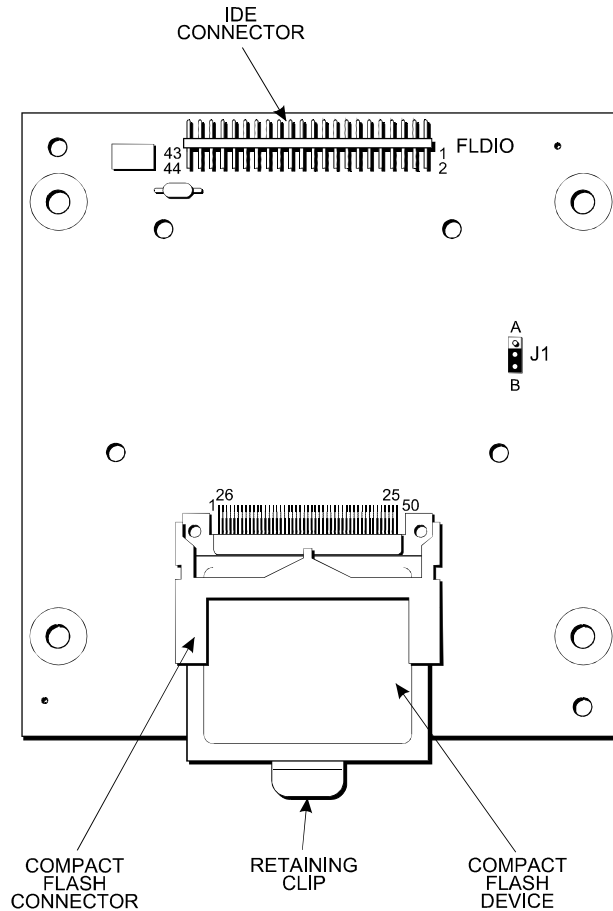

Figure C-1. IDE Flash Drive
8. Remove the Flash drive card by pushing down on the piece of metal and pulling out the card. Replace with the new Flash drive card, as shown in Figure C-1.